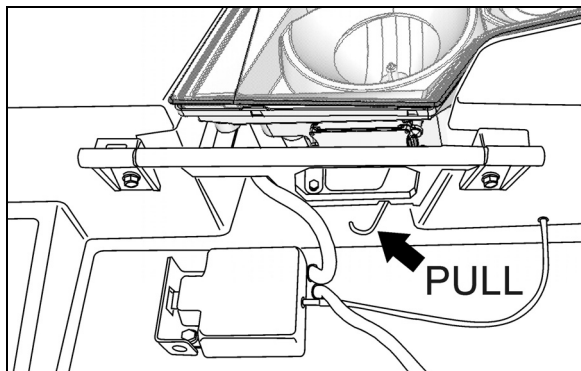

FIGURE 29: ROCKING THE HEADLIGHT ASSEMBLY 06714
3. Pull on the rod shown on figure 29 to pivot the headlight assembly.